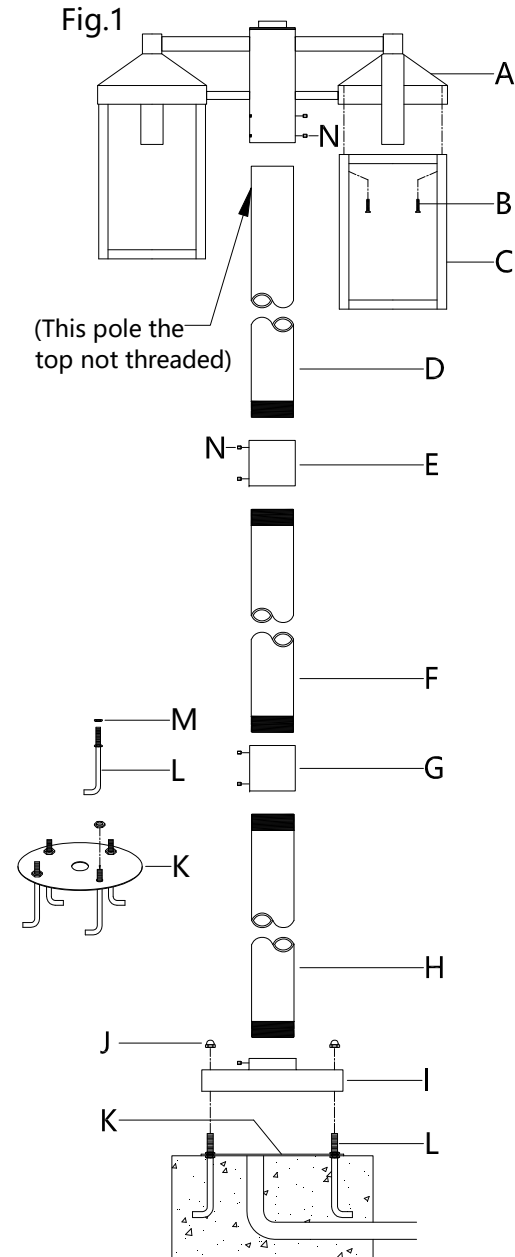

Fig.2
2. Raise the shade(C) in to the cone shape shade of fixture body(A), lock it securely with the screws(B).
3. Screw the pole(D),(E),(F),(G),(H) and base(I) together tightly, **follow wiring instructions carefully (see fig.2).**
- B. Take the four bolts(L) and run a hex nut(M) fully down each part of the threaded section. Insert the bolt(L) to the template(K) and secure with the second hex nuts.
5. Secure the poles using the machine screws(N) on side.
CONNECTING THE WIRES (Fig.2)